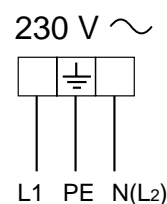

Fig. 6.1
- ✓ The electrical cable must be connected to the terminal board following the diagrams of fig. 6.1.